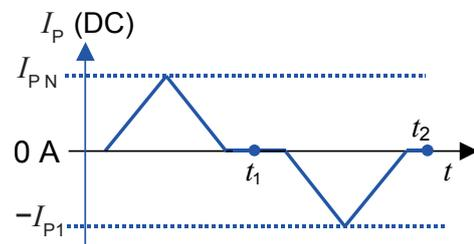

Figure 27: Current cycle used to measure magnetic and electrical offset (transducer supplied)
- in a known magnetization state, like in the current cycle shown in figure 27.
Using the current cycle shown in figure 27, the electrical offset is: